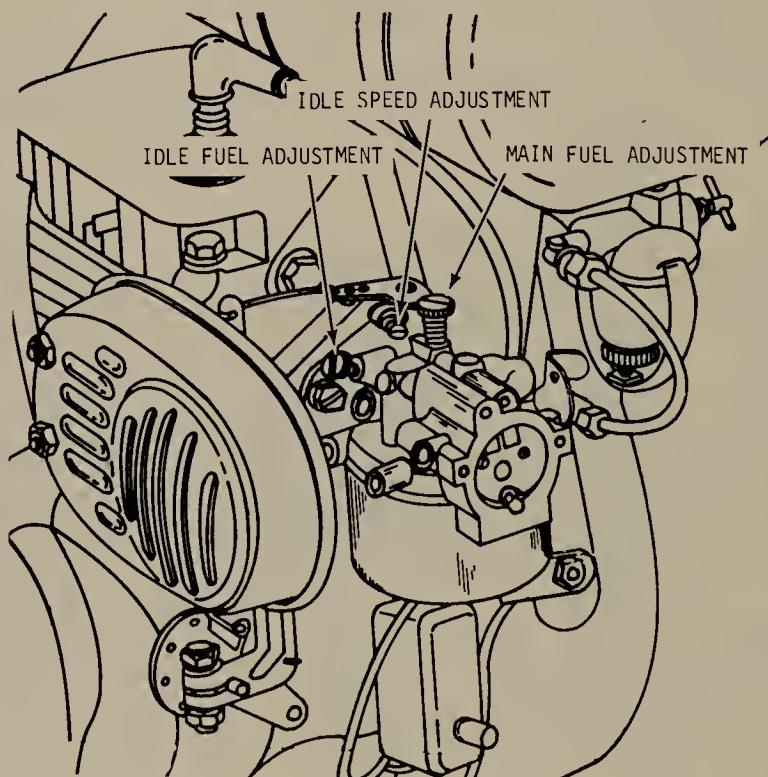

FIGURE 15.15 Adjustments on a side-draft carburetor used on a small engine. (Kohler Company.)
15.15 Kohler Small-Engine Carburetor Service. Figure 15.15 and 15.16 show the adjustments on the side-draft and the updraft carburetors used on many models of Kohler small engines. Kohler provides the following trouble-diagnosis chart.
Here is the recommended procedure for adjusting the two carburetors shown in Figs. 15.15 and 15.16. With the engine stopped, turn the main-fuel and idle-fuel needles all the way in (clockwise) until they bottom. Do not tighten screws as this will damage the needle valves.